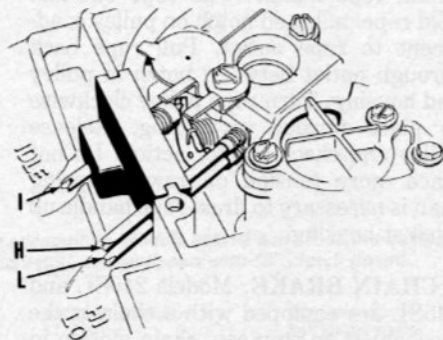

Fig. HL321—View showing location of idle speed screw (I), low speed mixture screw (L) and high speed mixture screw (H).
Initial adjustment of low speed mixture screw (L—Fig. HL321) and high speed mixture screw (H) is one turn open. Adjust idle speed screw so engine idles just below clutch engagement